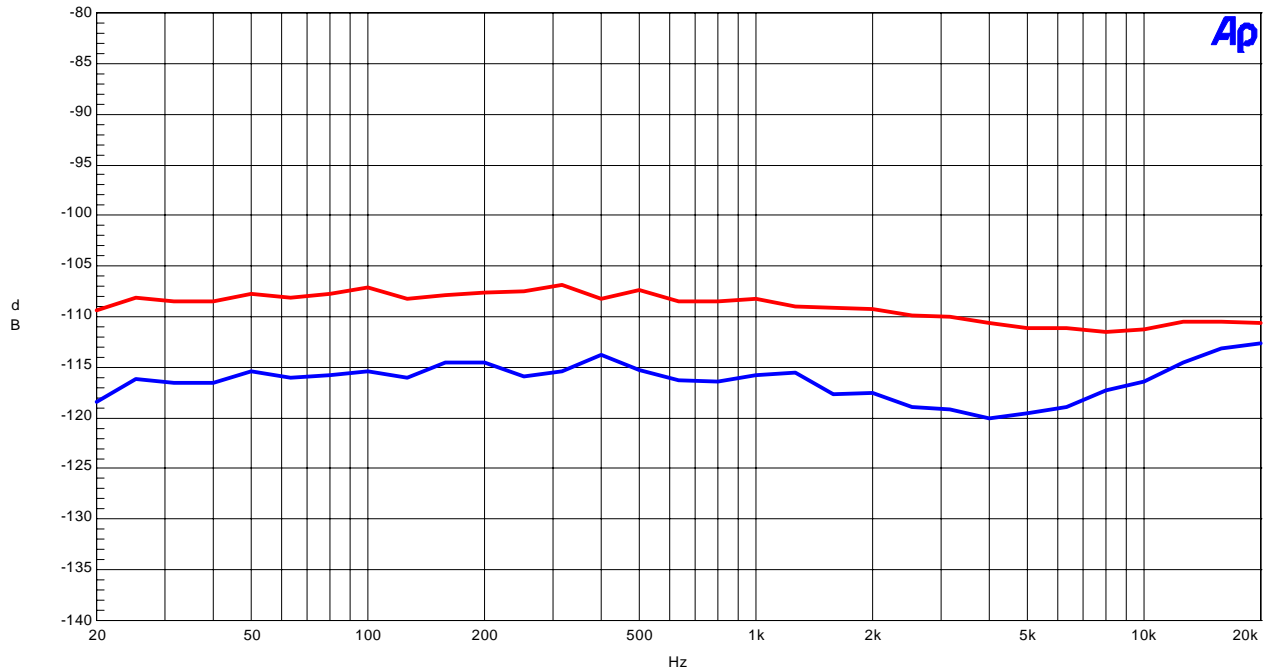

Figure 8. Cross-talk (Input Level=0dBFS)
- Figure 8. Cross-talk (Input Level=0dBFS)